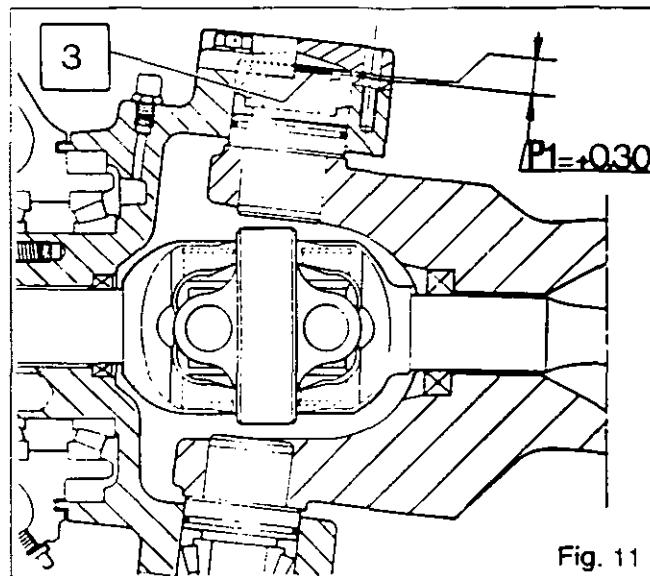

Fig. 11
70. Depending on the play "J" that is measured, determine the thickness of shims [3] needed to obtain (Fig. 11):